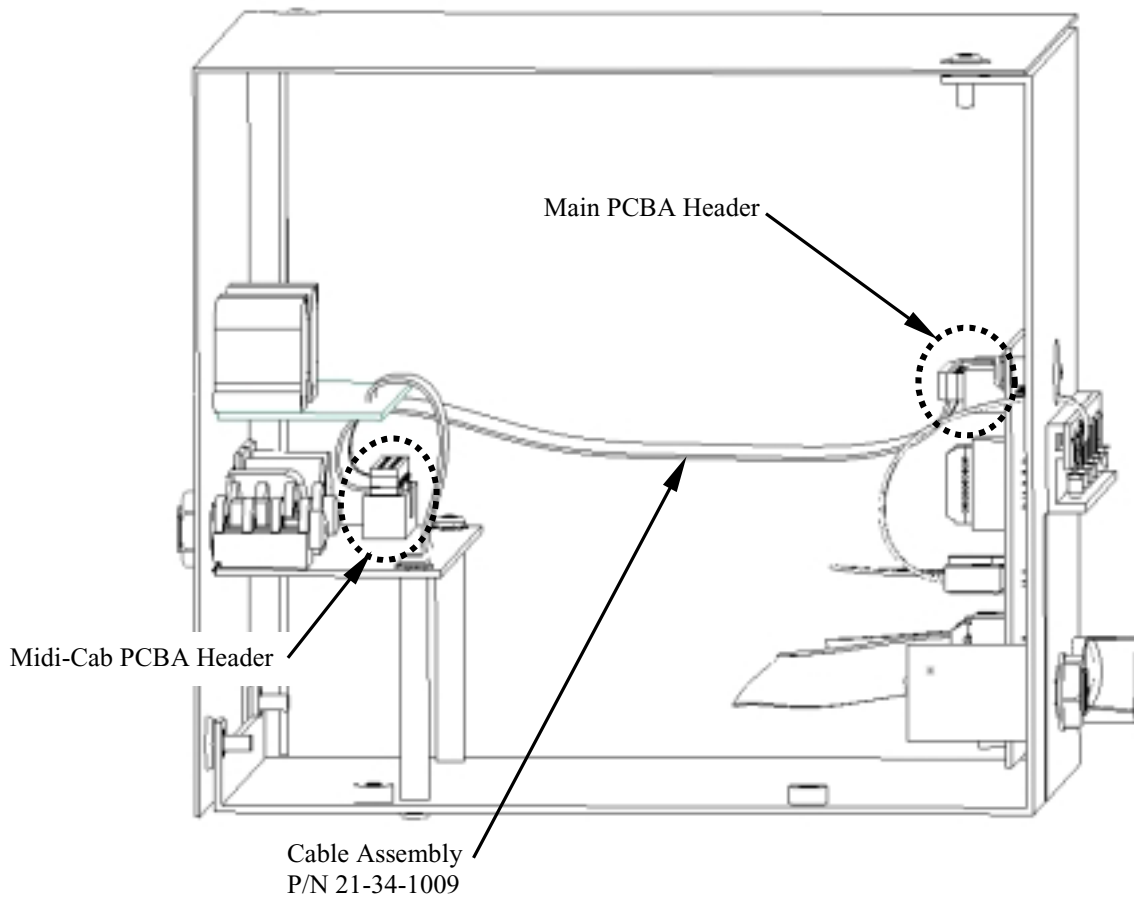

Figure 24 (left side view)
- a. Install 26 pin Midi-Cab to Main PCBA ribbon cable assembly. See figure 24.